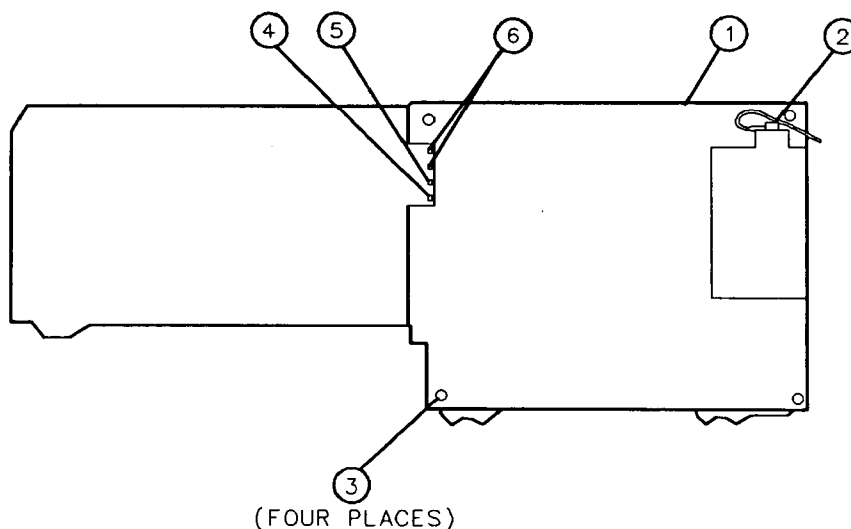

Figure 3-37. Connecting Cables to A7A1 Assembly
21. Locate the cable harness and SMA cable coming from the front of the Front-End assembly. The SMA cable has black tape near its connector. Connect the cable harness to A7A1J1 (1). See Figure 3-37. Connect the SMA cable to A7A1J6 (2) and route the cable as illustrated in the figure. Do not route the SMA cable over the A7 or A7A1 board assemblies. This could result in a pinched cable when the instrument cover is replaced.